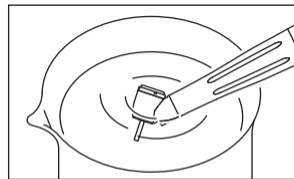

Fig. 7
- 3) Rotate the handpiece and immerse half of the handpiece head in the cup of water. (Fig. 7)